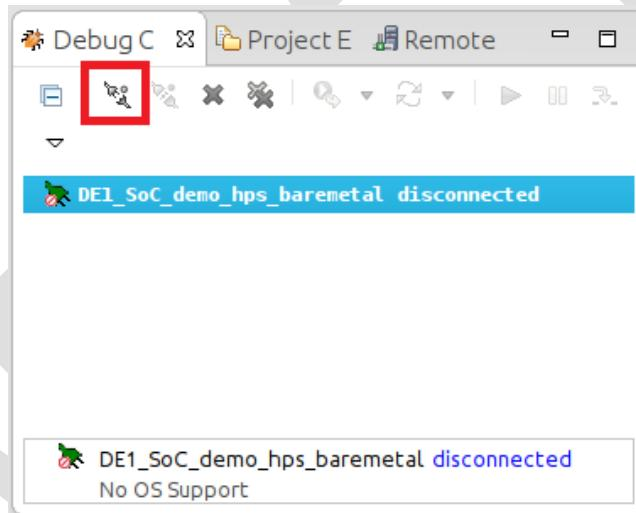

Figure 8-38. Debug Control View
31. In the "Debug Control" view, click on the "DE1_SoC_demo_hps_baremetal" entry, then click on the "Connect to Target" button, as shown on Figure 8-38. Our debug script will load and execute the preloader, then it will load and wait at our application's "main()" function.